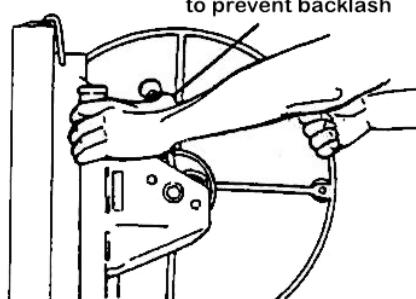

Figure 3
- Raise the brake arm all the way up. Grasp the winch post, and grip the brake arm firmly with your thumb. (Figure 3)